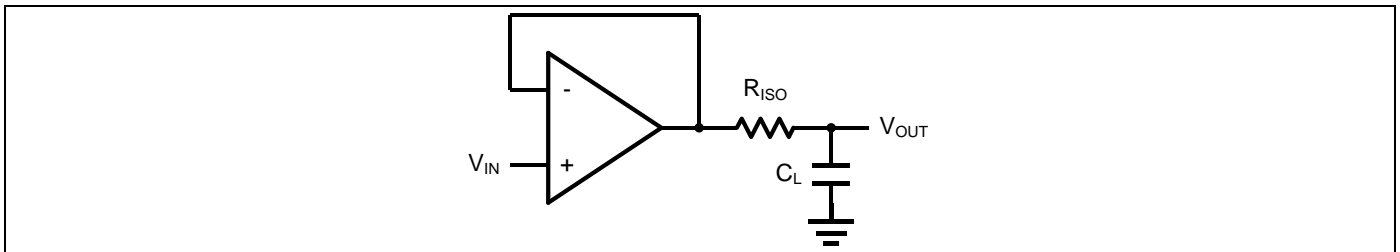
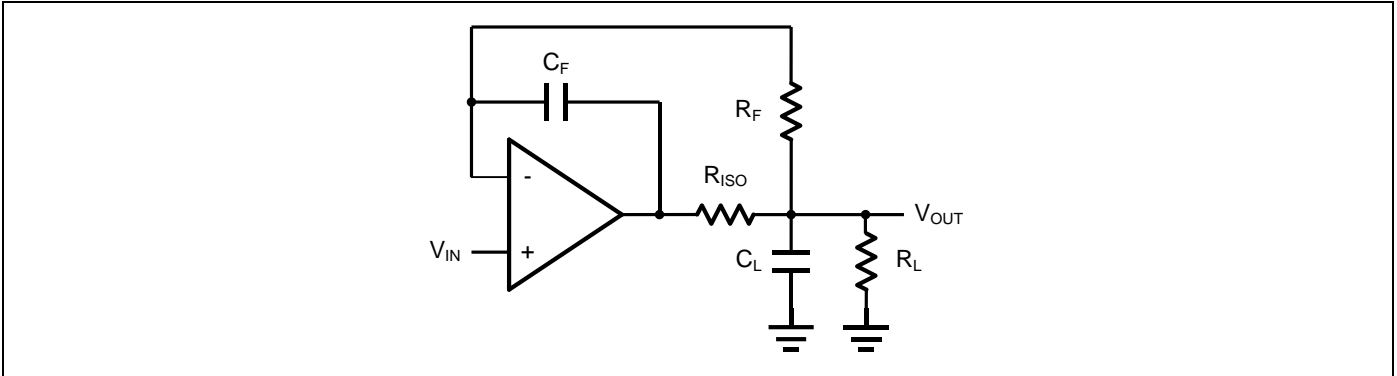

Figure 2. Indirectly Driving a Capacitive Load Using Isolation Resistor
Figure 3. Indirectly Driving a Capacitive Load with DC Accuracy
The MA8600 is optimized for bandwidth and speed, not for driving capacitive loads. Output capacitance will create a pole in the amplifier's feedback path, leading to excessive peaking and potential oscillation. If dealing with load capacitance is a requirement of the application, the two strategies to consider are (1) using a small resistor in series with the amplifier's output and the load capacitance and (2) reducing the bandwidth of the amplifier's feedback loop by increasing the overall noise gain. Figure 2. shows a unity gain follower using the series resistor strategy. The resistor isolates the output from the capacitance and, more importantly, creates a zero in the feedback path that compensates for the pole created by the output capacitance.
The circuit in Figure 3 is an improvement to the one in Figure 2. R_F provides the DC accuracy by feed-forward the V_{IN} to R_L . C_F and R_{ISO} serve to counteract the loss of phase margin by feeding the high frequency component of the output signal back to the amplifier's inverting input, thereby preserving the phase margin in the overall feedback loop. Capacitive drive can be increased by increasing the value of C_F . This in turn will slow down the pulse response.